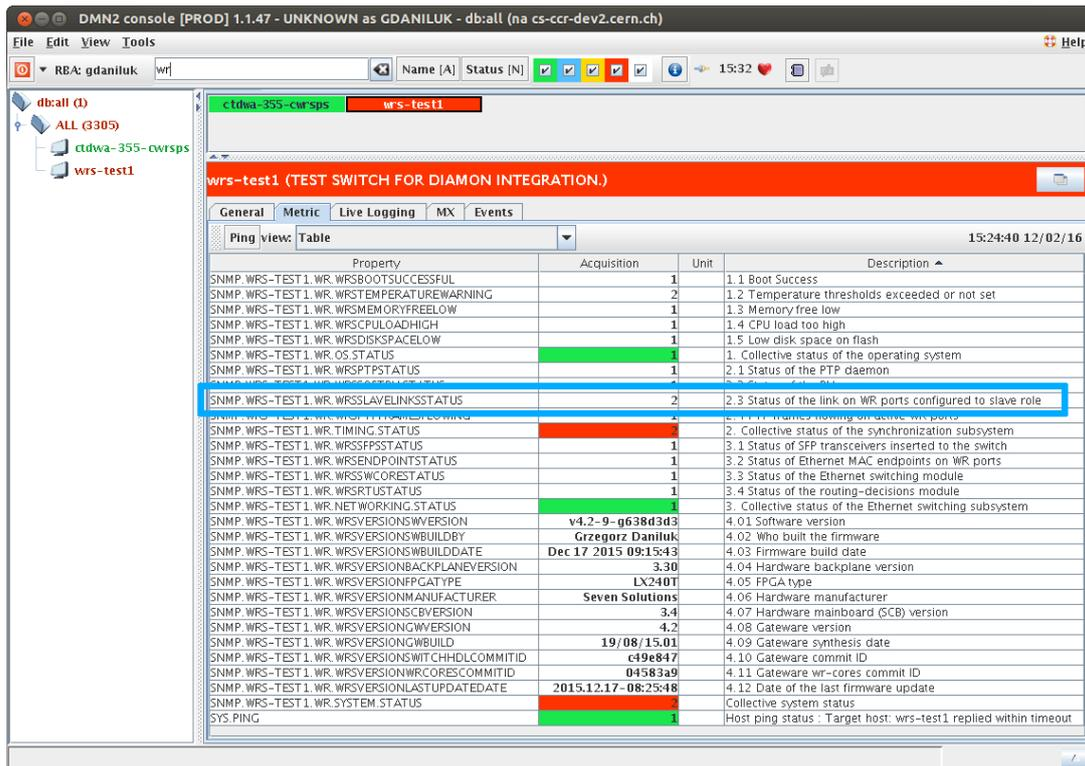

Figure 4: wrsSlaveLinksStatus object reports an error
3. Following the tree structure of status objects from figure 1, if `wrsTimingStatus` reports an error, then status objects: `wrsPTPStatus`, `wrsSoftPLLStatus`, `wrsSlaveLinksStatus`, `wrsPTPframesFlowing` should be checked. In this example `wrsSlaveLinksStatus` reports an error (fig.4).